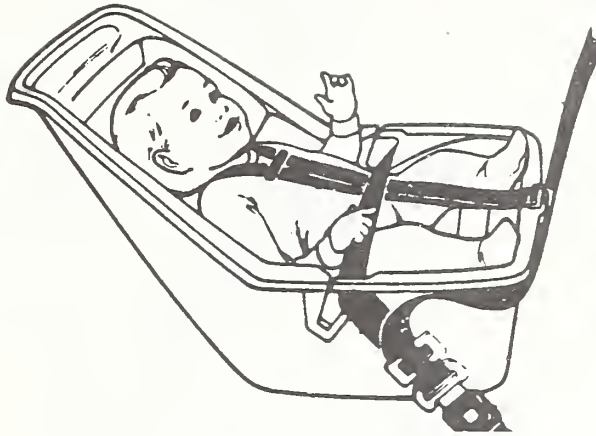

Figure 6 Infant-Only Seat
There are some seats that are designed especially for infants as shown in Figure 6. These seats are generally smaller than Toddler seats. The harness fits over the child's shoulders, and in most cases, the car belt crosses in front of the child securing the seat to the car. For a "correct" use of these seats, three conditions must be met: (1) use of the harness, (2) the car belt securing the seat and (3) the child is facing rearward. Note that the "First Ride" by Cosco Peterson does not route the car belt in front of the child safety seat. Refer to the identification guide to identify this particular seat. If the use of the car belt to secure this particular seat cannot be determined, mark it "unsure" (Code 3).